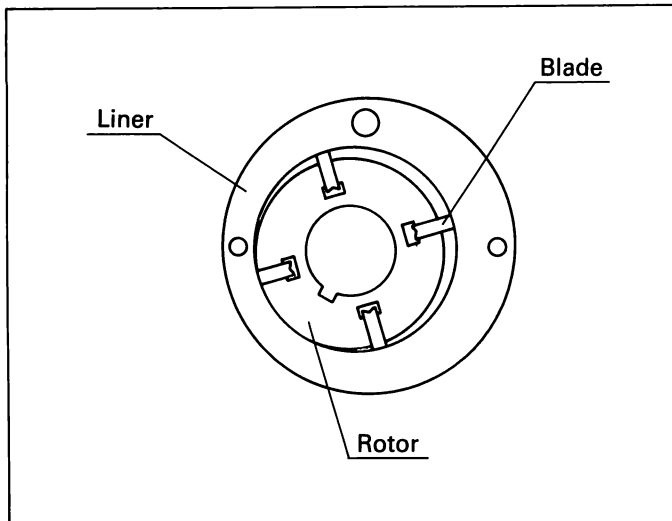
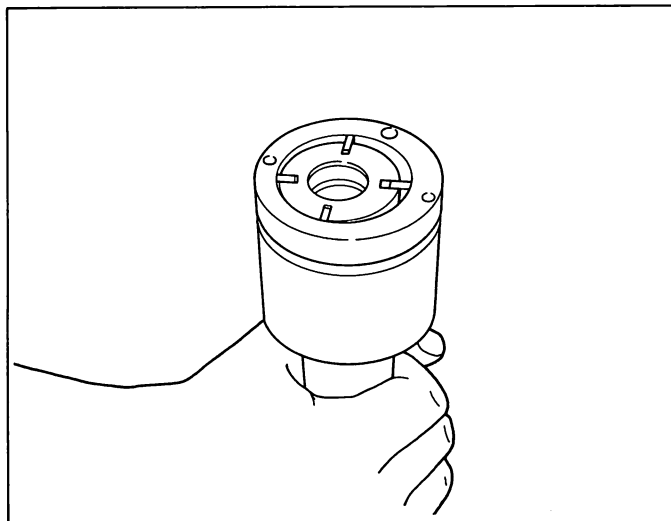

Fig. 35 Feed pump assembly
Fig. 36 Liner hole positions
1. The feed pump assembly (6) consists of a rotor with four blades, and a liner. Assemble the blades with the grooved ends facing the inside of the rotor and in the position where each blade was previously installed. Then, ensure that they slide smoothly with the rotor. Never alter the installation position of each blade. (Fig. 35)
2. Place the feed pump cover (9) and then the pump assembly on the feed pump holder (157829-5420).
**Note:** The liner mounting holes (two diametrically opposed holes) are positioned at unequal distances from the inside wall of the liner. The mounting hole furthest from the liner's inside wall is the reference hole when installing the feed pump assembly. (Figs 36 and 37)